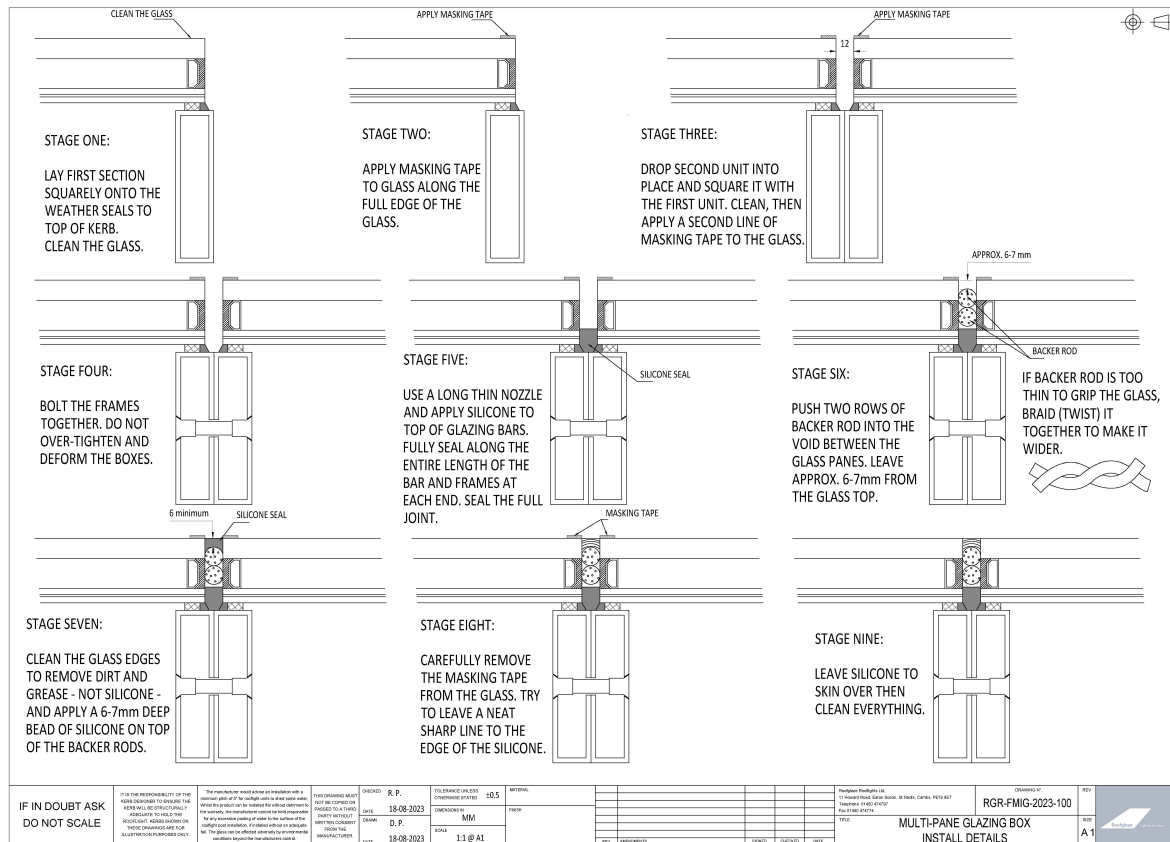

Fig 5 – Glazing Bar Installation
- ▶ 11 Clean the glass. Use masking tape to protect the glass either side of the joint between the glass panes, making sure the tape is fully on the glass edge and not overlapping. See figure 5.